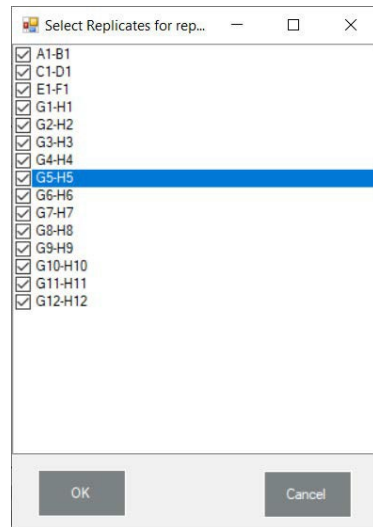

Figure 35. Select Replicates for Report
- 6 Double-click inside the **Replicates** column to select the replicate wells to be analyzed (see Figure 35 on page 61).